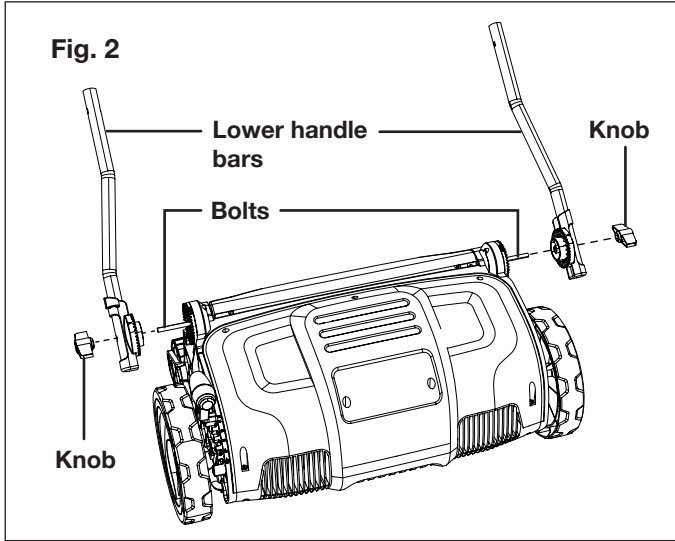

Fig. 2
2. Make sure the holes of lower handle bars and adjusting gear wheels are aligned. Insert the bolts on the machine into these holes. Secure with a set of handle knobs (Fig. 2).